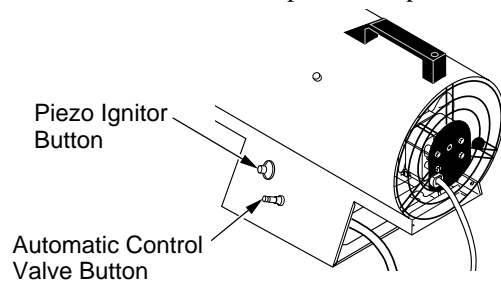

Figure 8 - Automatic Control Valve Button and Piezo Ignitor Button
- Push in and hold automatic control valve button (see Figure 8). Push piezo ignitor button (see Figure 8). Keep pushing ignitor button until the burner lights. When burner lights, keep automatic control valve button pushed in. Release button after 30 seconds. This activates the automatic control system.